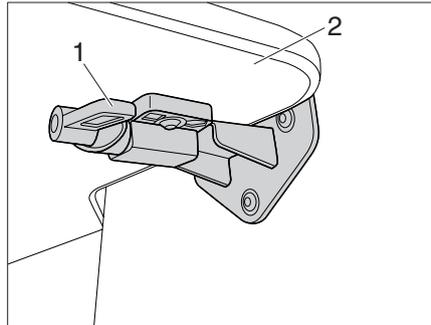

Fig. 21 Bed extension latch (special equipment)
- Rotate the latch (Fig. 21,1) on the left and right of the bed extension (Fig. 21,2) through 180°.